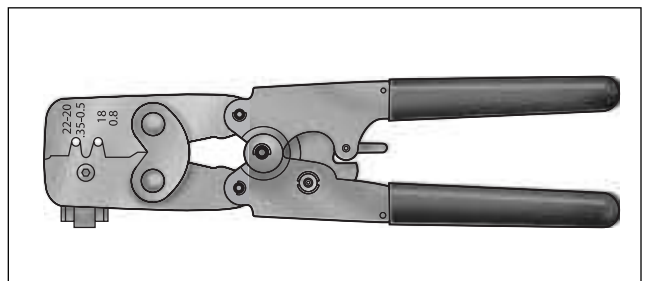

Figure B-29. Packard Micro 64 Terminal Crimper (Part No. HD-45929)
- 2. Obtain the Packard Micro 64 Terminal Crimper (HD-45929). See Figure B-29.